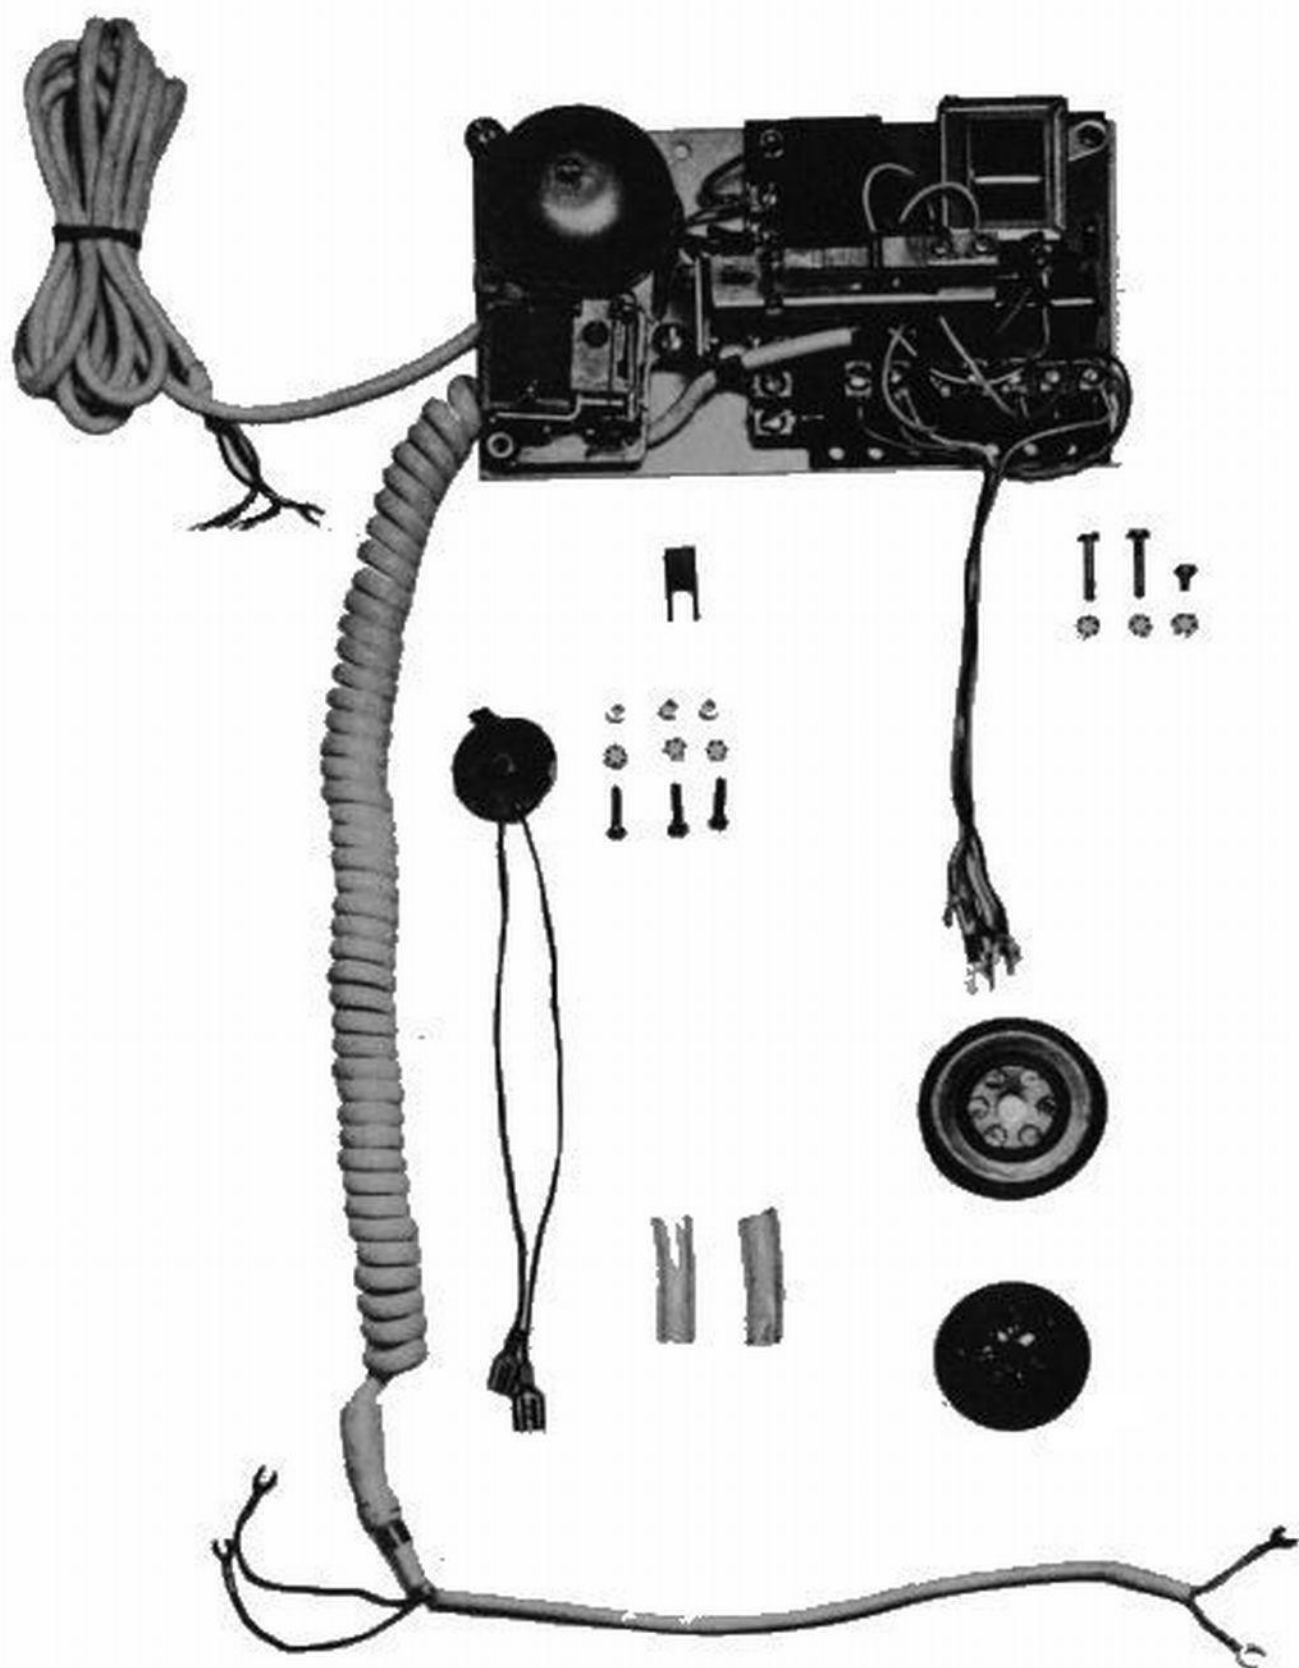

Figure 1. Components of LM-625 Specialty Telephone Set Kit.
3.05 All components of the kit which are to be enclosed within the decorator housing are pre-mounted and pre-wired on a steel base (see Figure 1). This assembly presently consists of a WA-1120-